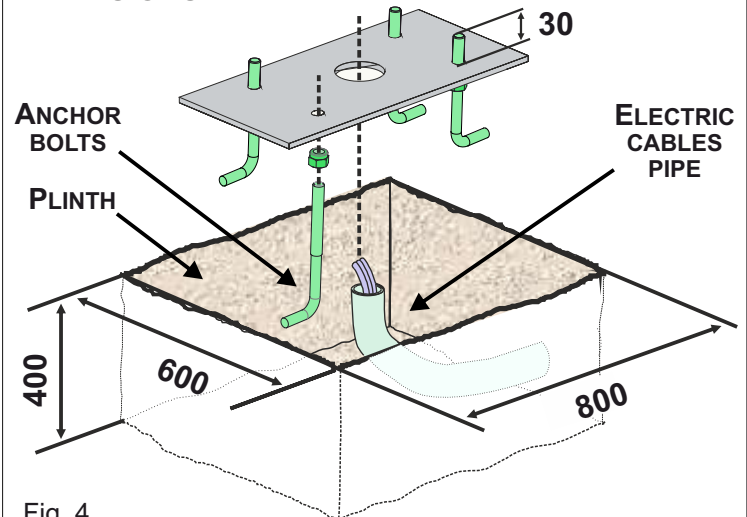

Fig. 4
**2.1.** Prepare a concrete slab according to the dimensions shown in Fig. 4;